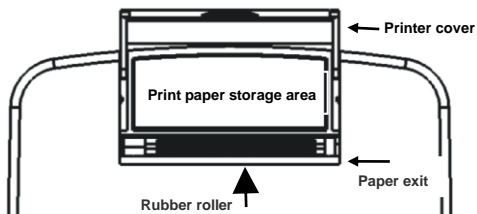

Figure 2.2
- 1) Open the printer cover in the direction of upward, as shown in figure 2.2.